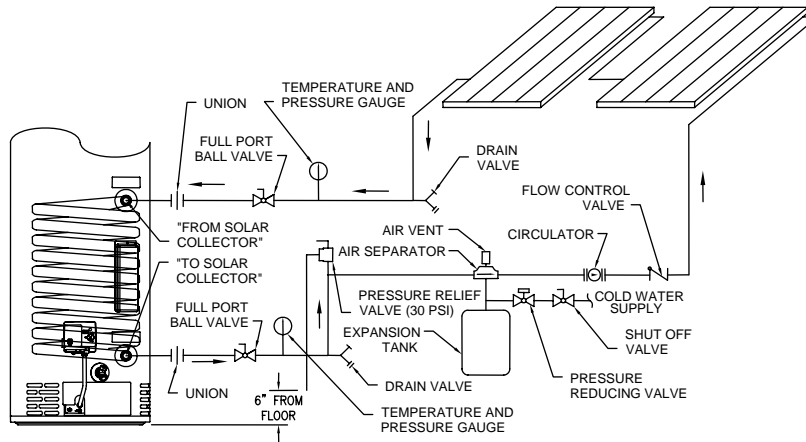

Figure 2 – Solar Heating with a Filled, Closed System
- 1) Pipe the system as shown in figure 2.